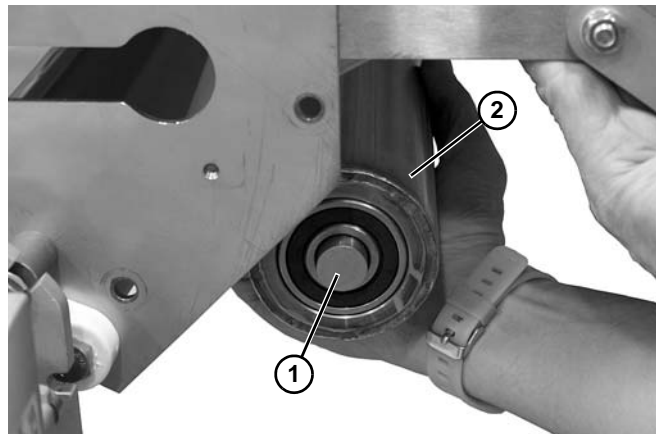

**Figure 58**
14. Remove tension assembly (Figure 58, item 1) on both sides of the center drive.